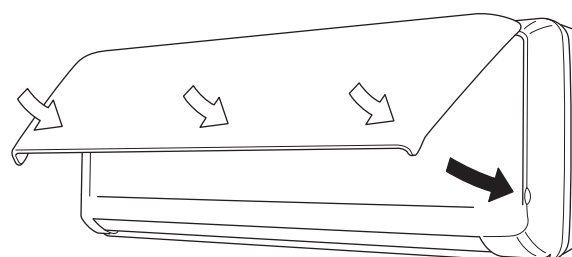

Fig. 19-2
- (6) After closing the front panel, press firmly on the parts indicated by the arrows to securely fasten the panel in place. (Fig. 19-2)